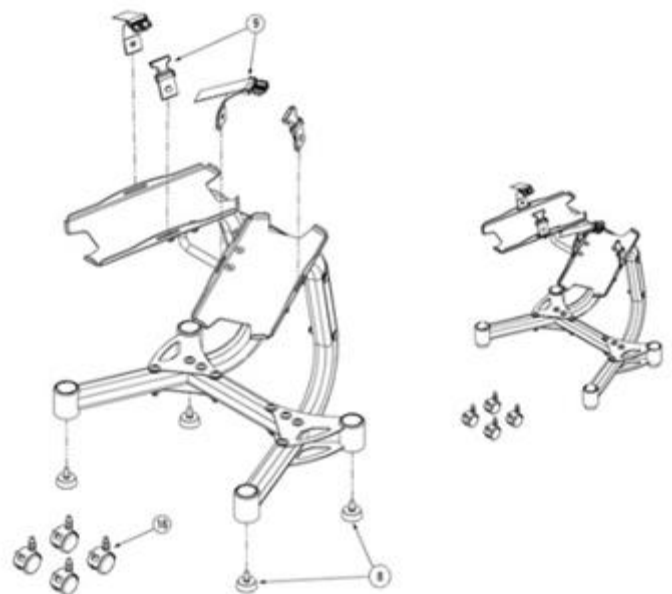

Fig. 8
Attach either foot pegs (8) or caster wheels (16) to the rear left stabilizer (2), the rear right stabilizer (3) and both stand legs (4). See figure 8.
Attach the hold down straps (9) to the left dumbbell platform (5) and the right dumbbell platform (6) as shown in figure 8.